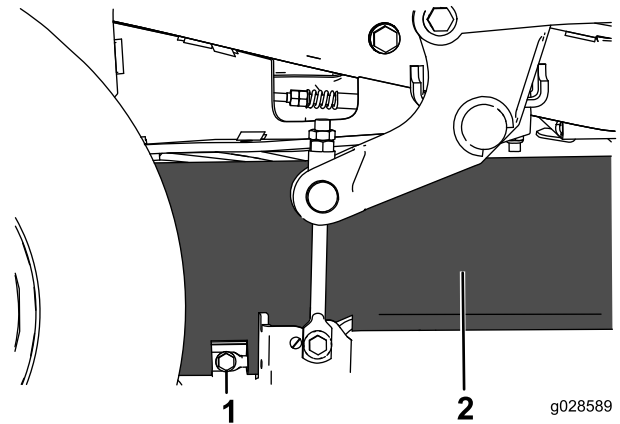

Figure 2
1. Loosen and remove the bottom bolt of the mower-deck curtain to release the curtain (Figure 2). Retain the bolt.